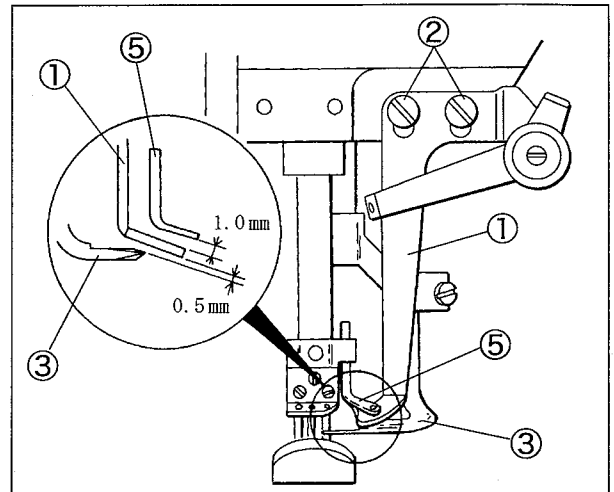

Fig. 6-11
- (1) Loosen the screws ② of the top cover thread guide ①. (Fig. 6-11)
- (2) Make the clearance between the top of the spreader ③ and the bottom of the top cover thread guide ① to 0.5 mm. (Fig. 6-11)
- (3) Set the hook ④ in the center of the slot of the top cover thread guide ① when the spreader ③ is at the extreme right. Then, tighten the screws ② securely. (Fig. 6-11 and 6-12)
- (2) Make the clearance between the top of the top cover thread guide ① and the top cover thread eyelet ⑤ to 1.0 mm when the needle bar is at the lowest point. (Fig. 6-11)